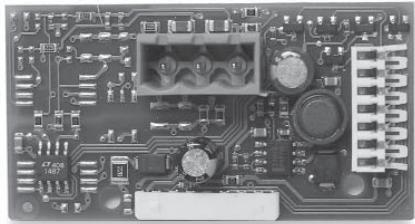

Fig.1
With reference to Figs. 1 ... 4, the connection to the PCO3 is obtained following this procedure:
1. remove the "serial card" of the electronic controller with a screwdriver (see Figure 1);